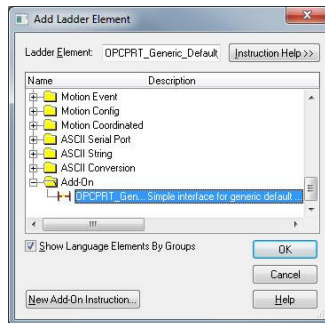

Figure 42: Add Generic Default Add-On Instruction
- 8) Select the generic default I/O add-on instruction in the Add-On folder. Refer to Figure 42.